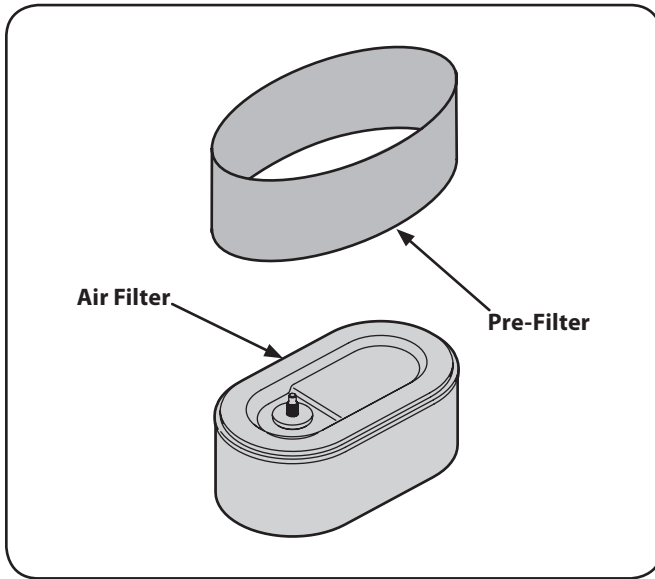

Figure 6-6
2. Remove the foam pre-filter from around the paper air filter. See Figure 6-6. Replace paper element when dirty or damaged. Clean foam element or replace when damaged.